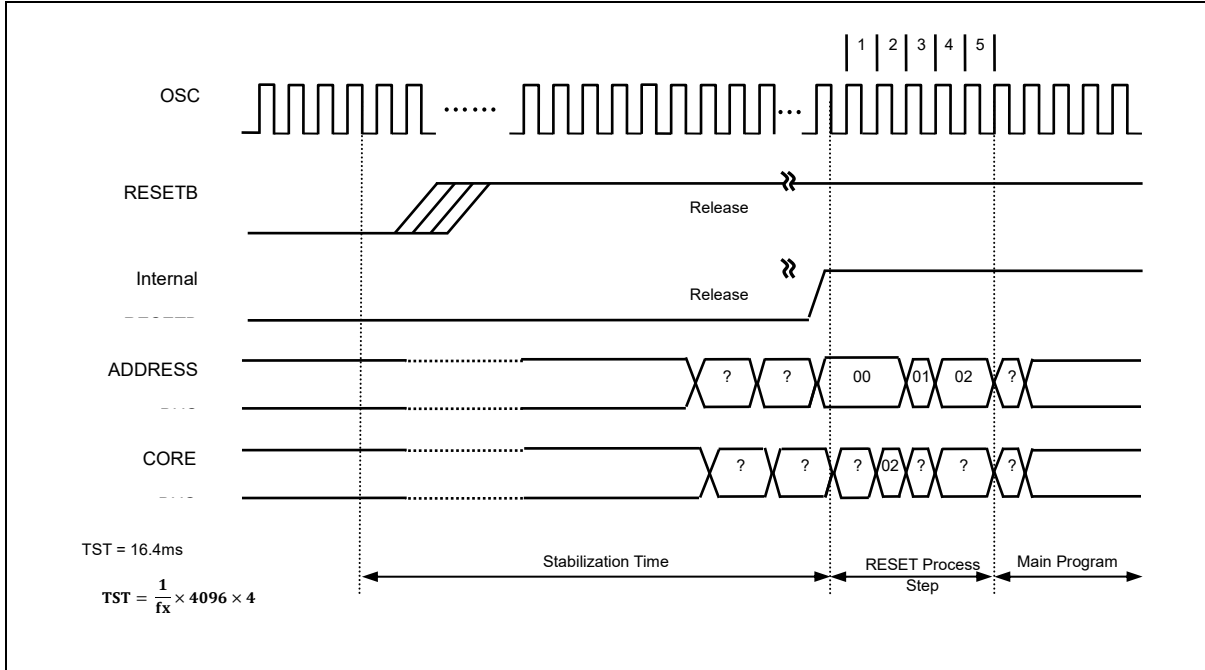
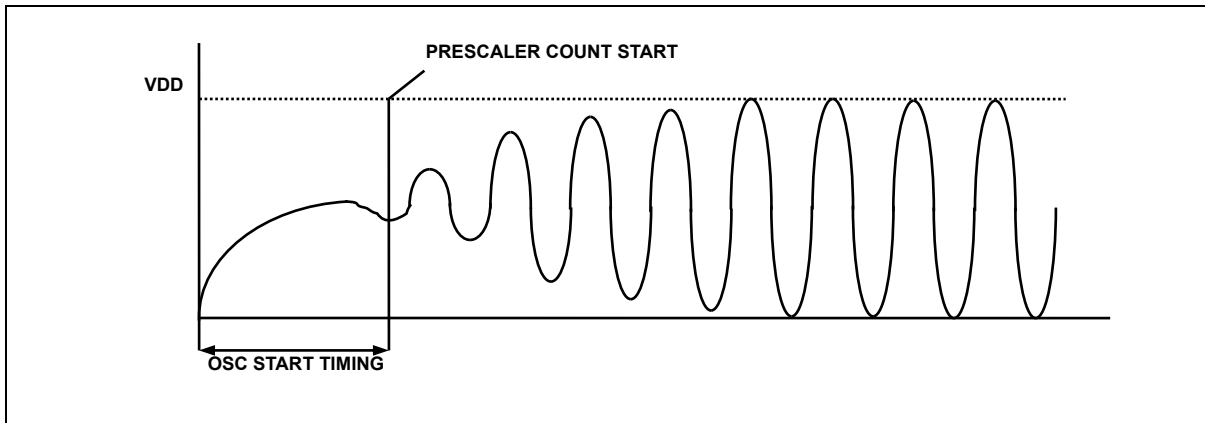

Figure 85. Timing Diagram after RESET
Figure 86. Oscillator Generating Waveform Example
1. As shown in Figure 85 and Figure 86, the stable generating time is not included in the start-up time.